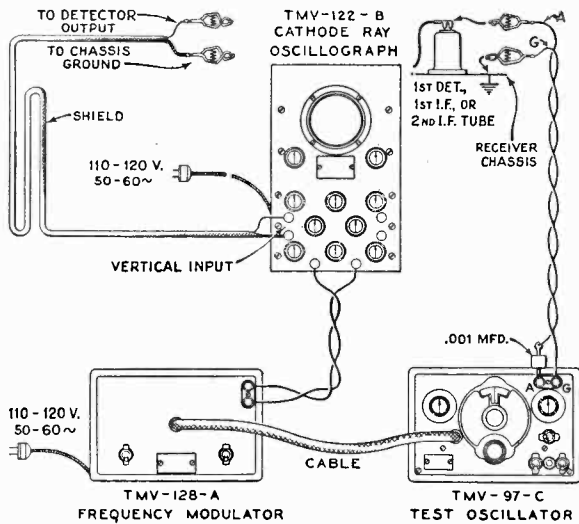

Figure 4—Alignment Apparatus Connections
to feed the output of the Full-Range Oscillator to the stages in their order of alignment, adjusting the trimmers of each transformer and observing the effect at the second detector output on the Cathode-Ray Oscillograph. The proper point of connection of the Oscillograph is with its vertical "high" input terminal attached to the junction of R-7, R8 and R9 as illustrated in Figure 5, and with the "0" or ground terminal to the chassis. The "Ext. Sync." terminals of the Oscillograph should be connected to the Frequency Modulator as shown by Figure 4. A .001 mfd. capacitor installed in series with the Oscillator "Ant." lead will prevent the voltages of the stage under alignment from becoming upset. The vertical "A" amplifier should be "On" for the ensuing adjustments and the gain control kept at its maximum position. For each adjustment, the Oscillator output need be regulated so that the image obtained on the Oscillograph screen will be of sufficient size as to be accurately observable. Proceed further as follows:
- Attach the output of the test Oscillator between the control grid cap of the RCA-6K7 i-f tube and chassis ground as shown typically by Figure 4. Tune the Oscillator to 460 kc. and set its modulation switch to "On". Regulate its output until the signal produces a wave pattern on the Oscillograph screen, adjusting the Oscillograph controls to give the desired number of cycles. Cause the image to stand still on the screen by manipulation of the frequency and synchronizing controls. Then carefully tune the two trimmers C-29 and C-30 of the second i-f transformer to produce maximum amplitude (vertical deflection) of the oscillographic image. Under this condition the transformer will be sharply resonated to 460 kc.
- The Frequency Modulator should then be placed in operation and interconnected with the Full-Range Oscillator by means of the special shielded patch cord. Figure 4 shows the proper arrangement. Set the Frequency Modulator sweep range switch to its "Lo" position and turn the Oscillator modulation switch to "Off". Change the timing control of the Oscillograph to "Ext." and place the range switch to its No. 2 position. Then carefully shift the tuning of the Oscillator so as to increase its frequency, until two distinct and similar waves appear on the Oscillograph